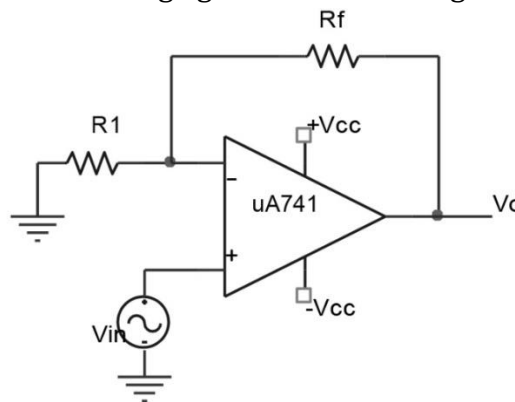

Figure 4: Non-inverting amplifier configuration of op-amp
- An op-amp connected in a closed-loop configuration as a non-inverting amplifier with a controlled amount of voltage gain is shown in Figure 4.